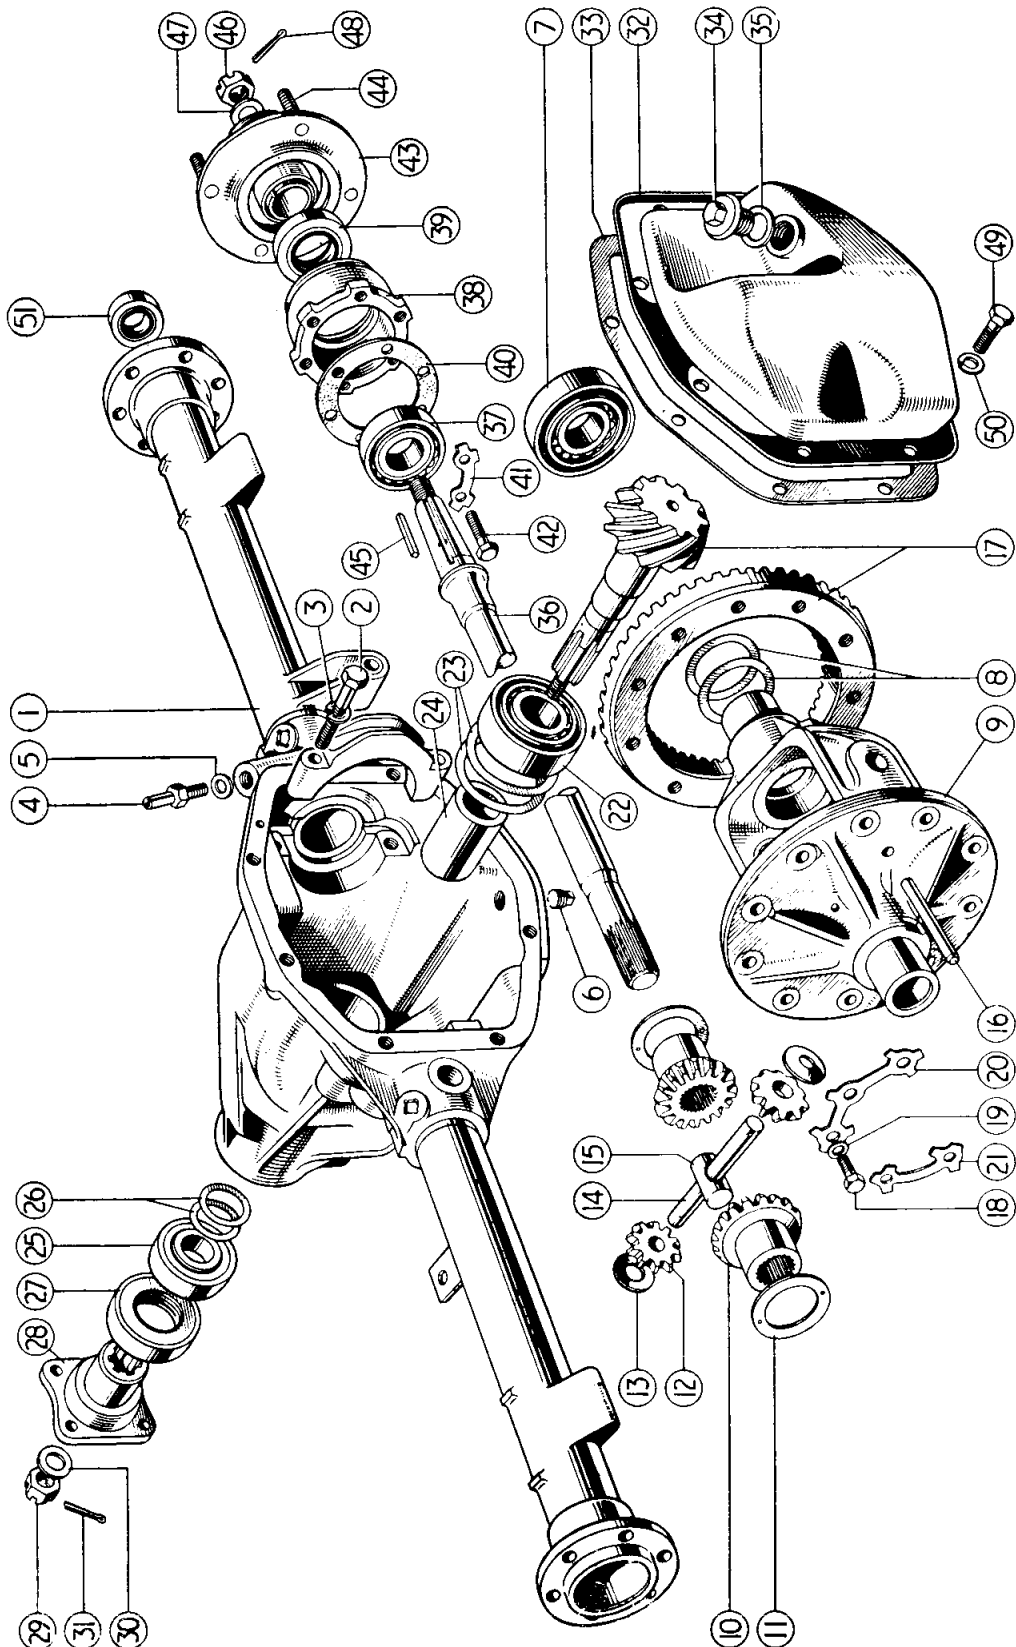

Fig. 13
Except for the addition of a thrust block (item 15, Fig. 13), the crown wheel and pinion assemblies remain the same as fitted to the previous axle. Therefore, instructions for the servicing and adjustment of these assemblies are unaltered.
NOTATION FOR EXPLODED ARRANGEMENT OF REAR AXLE (Fig. 13)